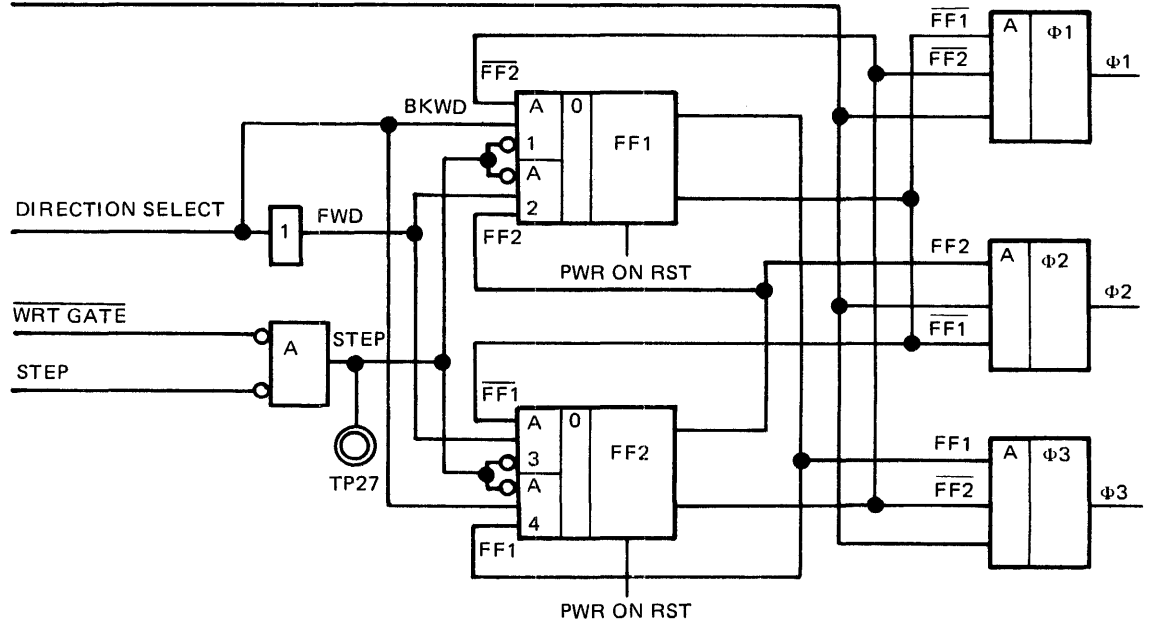

Figure 17 Track Accessing (Stepper Control Logic)
3.3 Stepper Control Logic (Figure 17)
Figures 17 and 18 show stepper control logic and timing diagram respectively. Minus Direction Select is inverted and becomes +Forward, this enables A2 and A3 of FF1 and FF2. Since both FF1 and FF2 are reset at this point, the FF1 line further enables A3.
3.3.3 Reverse Seek (Ref. Figures 17 and 18)